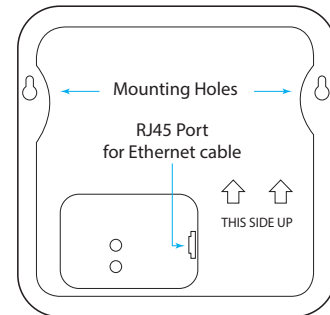
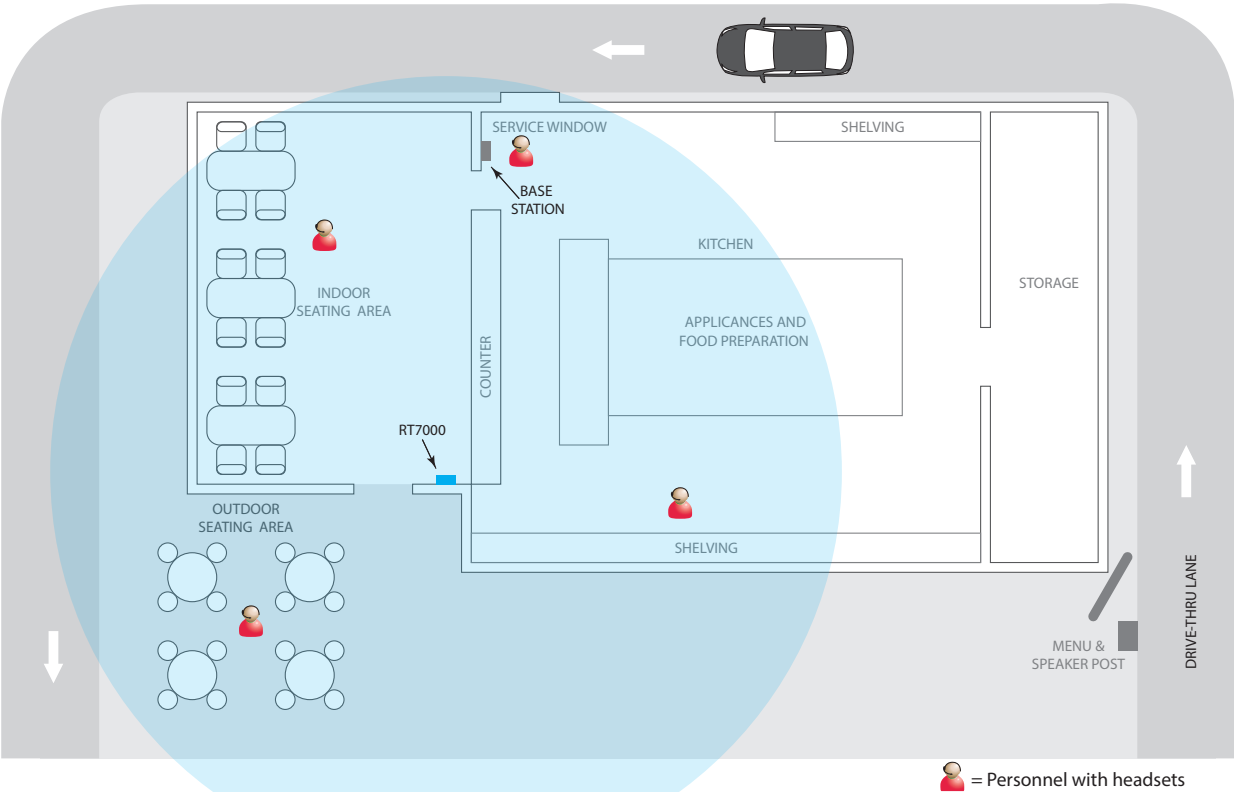

Fig. 2.4
Fig. 2.10
- Finding a good location for the remote transceiver is critical (see Fig. 2.10, and 2.11). Also read about the “Remote Transceiver (RT7000)” on page 14 under Component Notes and review the Critical Steps in these instructions.
4. Mount the power supply. Mark the mounting location on the wall through the mounting holes on each side. Mount the power supply using the hardware provided. Terminate the power supply to the Base Station (see "Wiring Diagram's" Fig. 2.10, 2.11 and wiring connections on page 5).
5. **Critical Step:** Loosely mount and connect the RT7000 (Fig. 2.4 & 2.5) in a central location for optimal coverage (until range tested in steps 9 & 10 with the Installation Wizard). For example, notice Fig. 2.10 and 2.11. They show two different store layouts with specific targeted areas where the headsets are primarily used. In these examples, the location selected for the RT7000 (represented by the small blue rectangle) offered the best coverage indicated by the blue circled areas. Each store required the RT7000 to be mounted in a different but central location to provide the best all-around coverage unique to the store's need. Store layout and obstructions also affected placement and range. (see "Component Notes" on page 13 for more details on the RT7000 placement).